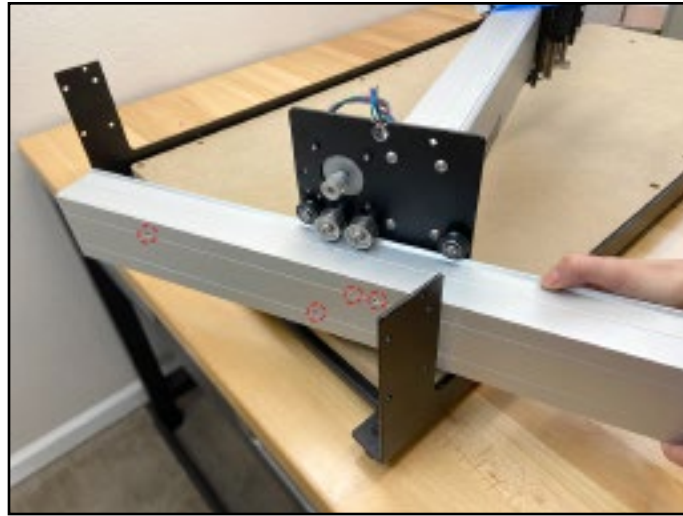

Figure 4-5
1. Slide the integrated V-rails of the Y1-rail between the four (4) V-wheels of the Y1-carriage. Center the rail with the carriage plate. See **Figure 4-5**.